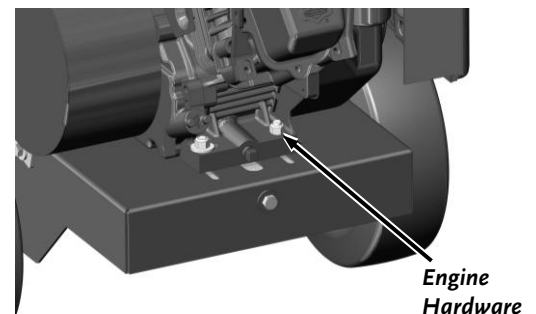

Figure 26
- a) Loosen the Engine hardware only at three places and leave the last one tight so the Engine can be rotated to align the Clutch with the Sheave (**Figure 26**).